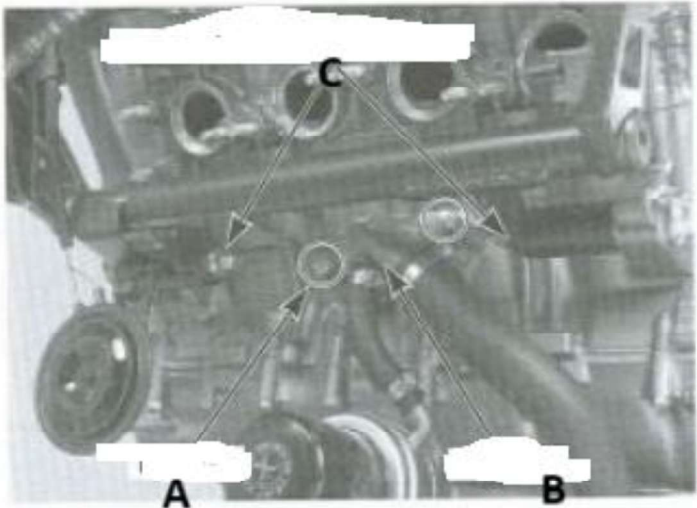

Figure 14
- 5. Install the screw (Figure 14, item A), collars (item B) to attach the cover (item C) to the engine.